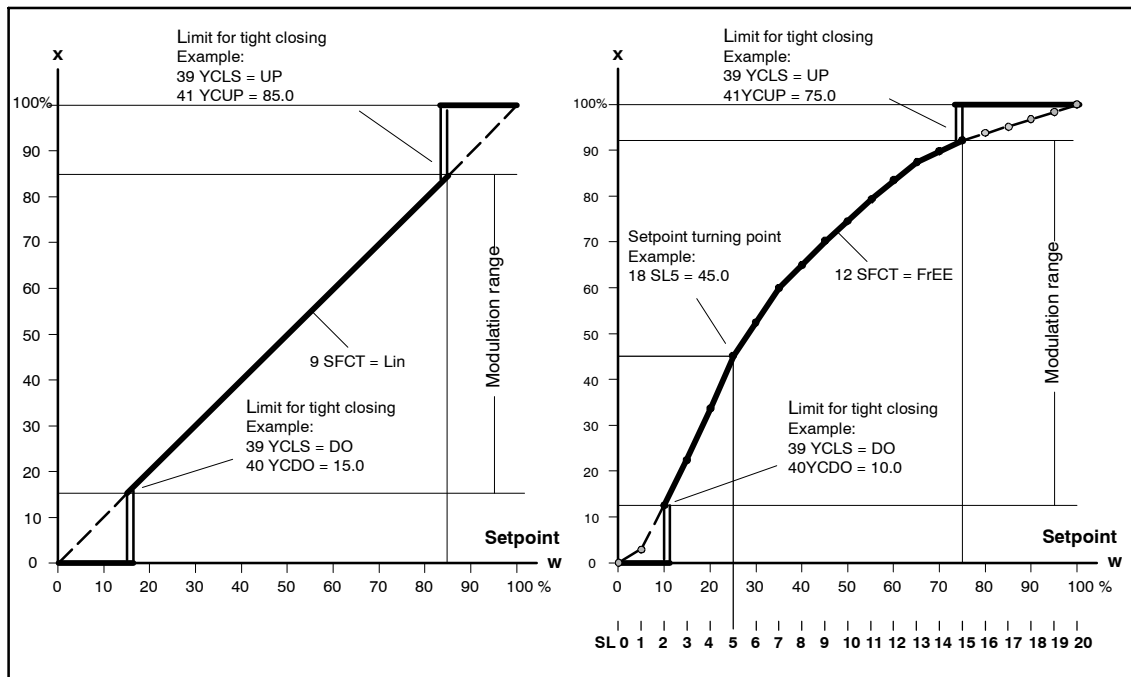

Figure 4-9 Setpoint characteristic, manipulated variable standardization and tight closing function
- 12.SFCT** Setpoint function (see figure 4-9, page 102)
Manipulated variable limiting start (see figure 4-9 and 4-10)
Manipulated variable limiting end (see figure 4-9 and 4-10)
Manipulated variable standardization (see figure 4-9 and 4-10)
Tight closing with manipulated variable (see figure 4-9, page 102)